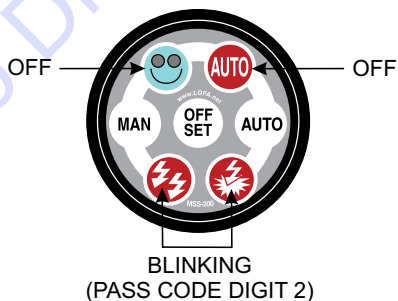

Figure 36. Pass Code Digit 2
4. Press the **OFF/SET** button (Figure 36) again this will enter the value zero for pass code digit 2 into the controller.